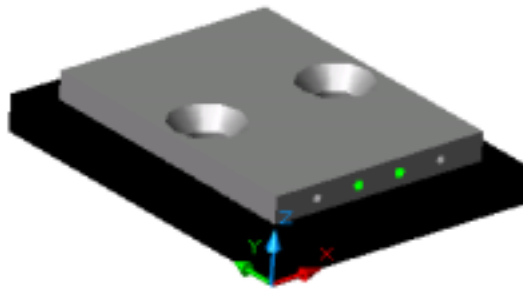

Figure 21. Lower temperature shield and removable plate from Five Axis Aligner.
**STEP 1:** Bolt the removable plate of the Five Axis Aligner to the lower temperature shield (drawing #1) with two  $\frac{1}{4}$ -20 X  $\frac{3}{8}$ " slotted flat machine screws (see figure 21).